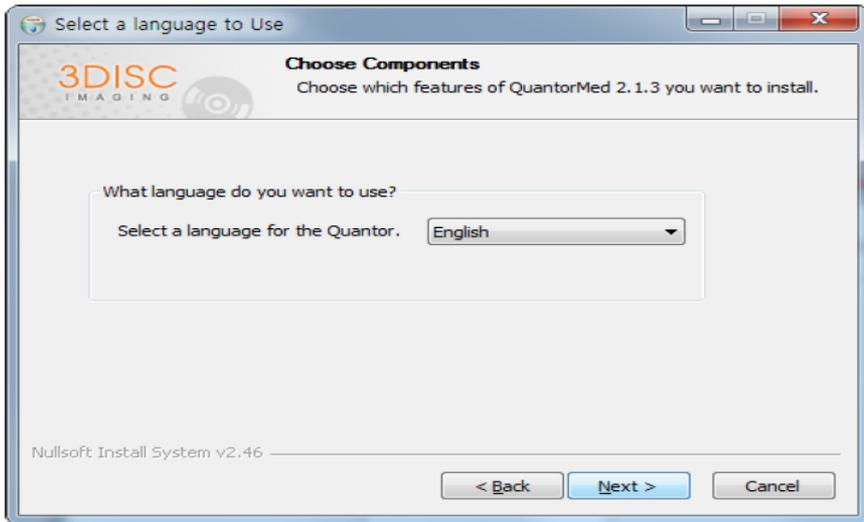

Figure 2.3. Components Dialog Box
- Choose your language and click “Next” button as shown in Figure 2.3